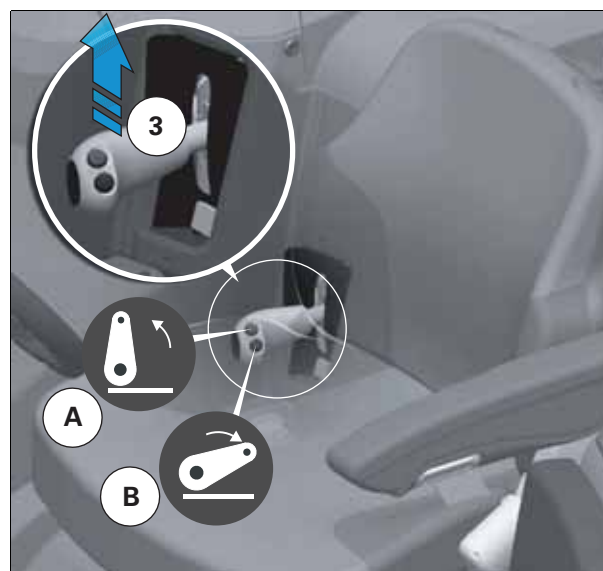

Fig. 18.
3. Pull the locking lever (3) *fig. 18* to release the hook, then press the lowering switch (B) to lower the hook to the ground.
2. Press the linkage lifting button (A) *fig. 18* on the hitch control until the hook automatically locks in place.